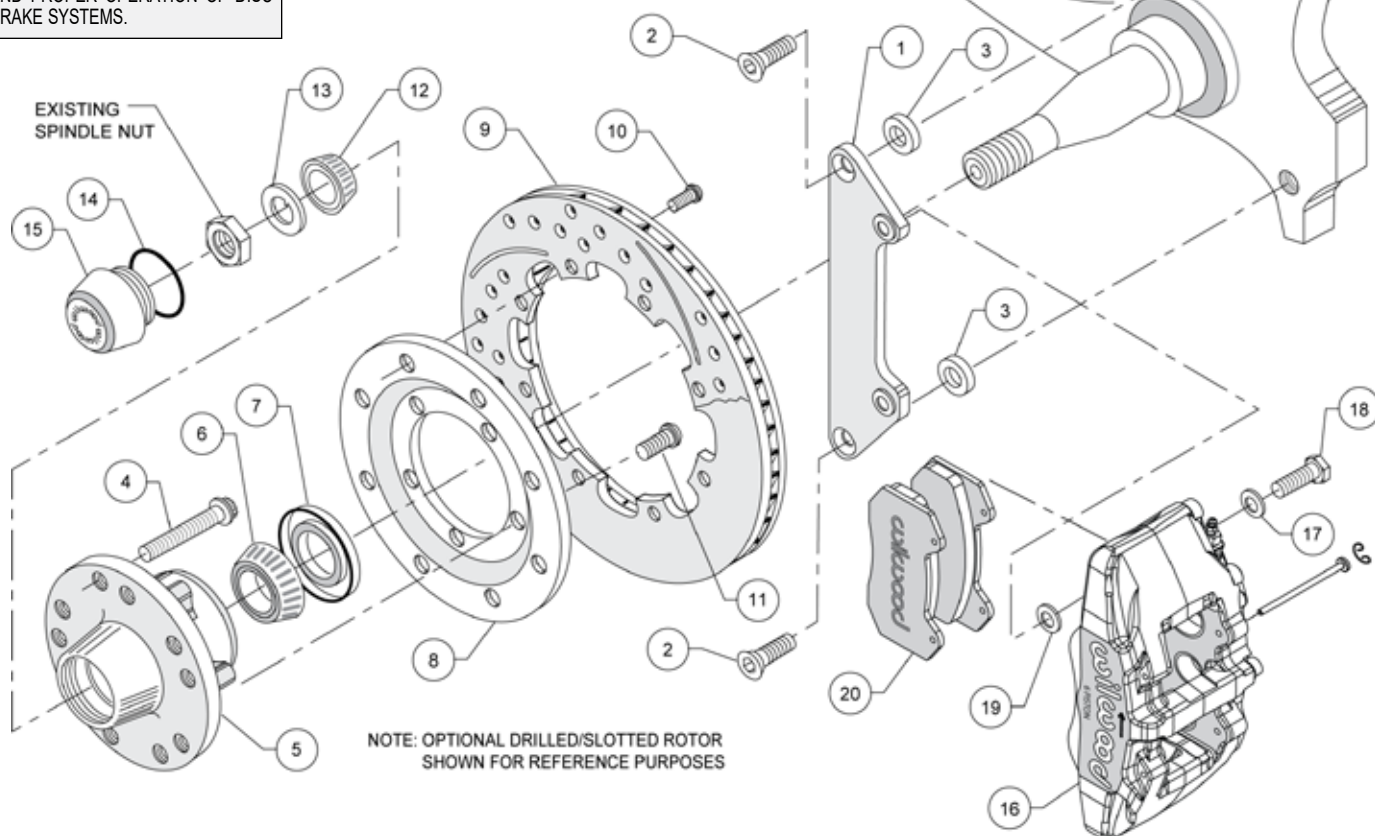
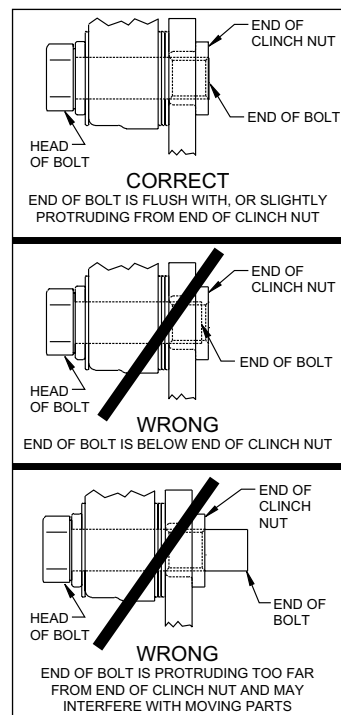

Figure 2. Typical Installation Configuration
Figure 4. Clinch Nut Engagement Diagram
NOTE: Numbers in parenthesis refer to the parts list and Figure 2 on the preceding pages.
CAUTION: All mounting bolts must fully engage clinch nuts. Be sure to check that all bolts are either flush or protruding through flanged side of clinch nut after shimming, Figure 4.
•Orient the caliper mounting bracket (1) with the corresponding holes, to the face of the spindle, as shown in Figure 2. Attach using bolts (2) while positioning spacers (3) between bracket and spindle face. Temporarily tighten the mounting bolts. Ensure that the flanged heads of the clinch nuts in the bracket are facing outboard.
•Install wheel studs (4) into the hub (5), Photo 1. Torque to 77 ft-lb. **NOTE:** There are two five lug patterns in the hub (5 x 4.50 and 5 x 4.75). Ensure the correct hub stud pattern is being used to fit the wheel application.
•Pack the large inner bearing cone (6) with high temperature disc brake bearing grease (available from your local auto parts store) and install into the backside of the hub (5), Photo 2.
•Install the grease seal (7) by pressing into the backside of the hub (5), flush with the end of the hub, Photo 2.
•Orient the rotor (9) and the rotor adapter (8) as shown in Figure 2 and Photo 3. Attach the rotor to the adapter using bolts (10). Using an alternating sequence, apply red *Loctite*® 271 to the threads, and torque to 25 ft-lb.
•Mount the adapter/rotor assembly (8/9) to the hub (5) using bolts (11), as shown in Figure 2 and Photo 4. Using an alternating sequence, apply red *Loctite*® 271 to the threads, and torque to 45 ft-lb.
•**NOTE:** Please reference the caution statement at the beginning of the assembly instructions. This kit contains distinct right and left hand calipers that must be mounted in a specific direction, as described below. Mount the caliper (16) onto the caliper mounting bracket (1) using bolts (18) and washers (17), as shown in Figure 2. Initially place two .035" thick shims (19) on each bolt between the caliper and the bracket, Photo 7. Ensure that the caliper is mounted so the largest pistons are at the rotor exit end of the caliper, in relation to the direction of rotor rotation. Temporarily tighten the mounting bolts and view the rotor (9) through the top opening of the caliper. The rotor should be centered in the caliper, Photo 8. If not, adjust by adding or subtracting shims between the bracket and the caliper. Always use the same amount of shims on each of the two mounting bolts. **NOTE:** The end of each bolt must be flush with or slightly protruding from the head of the clinch nut, as shown in Figure 4. If necessary place spare shims between washer (17) and caliper mounting ear to achieve the proper clinch nut engagement. Once the caliper alignment and clinch nut engagement are correct, remove the caliper bolts and caliper.